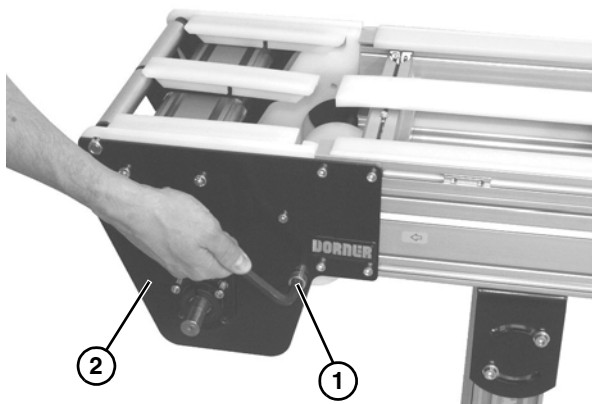

Figure 24
2. Remove socket head bolt (**Figure 24, item 1**) on each side of drive tail assembly (**Figure 24, item 2**).